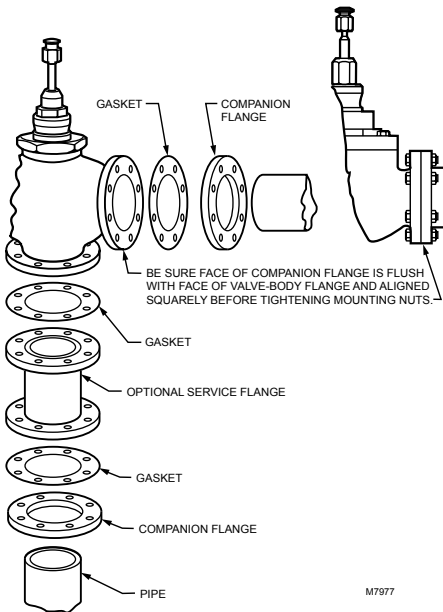

Fig. 5. Flanged valve body installation.
See Fig. 5 for typical installation.
7. Use mounting bolts long enough so the nuts can use the full length of the nut threads. (See Fig. 4.) Use bolts 1/8 in. smaller than the diameter of the bolt hole to allow clearance for installing. (See Fig. 5.)